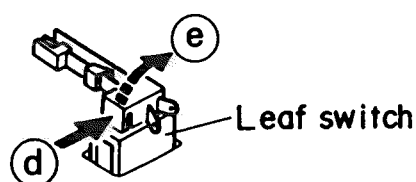

Fig. 2-23
■ Leaf switch (Fig. 2-23)
Press the leaf switch in the direction of the arrow ④ and then remove it in the direction of the arrow ⑤ referring to Fig. 2-23.